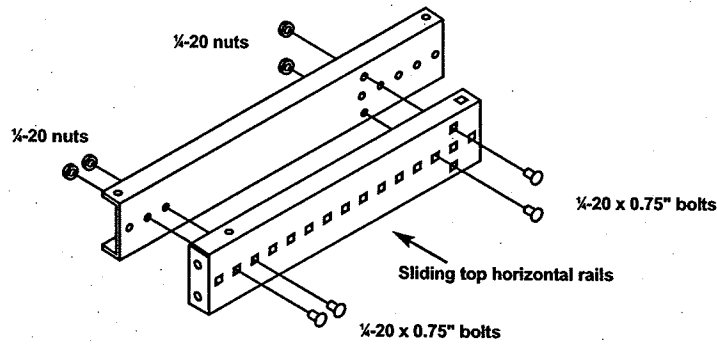

Figure 3. Horizontal rails adjusted to 17.75" (45.1 cm) deep.
- The rack's depth can be adjusted in 1" (2.5-cm) increments. Connect the first set of sliding top horizontal rails together using (4) 1/4-20 x 0.75" bolts and (4) 1/4-20 nuts. Using (4) more 1/4-20 x 0.75" bolts and 1/4-20 nuts, connect the second set of sliding top horizontal rails together.
Next, connect the first set of sliding bottom horizontal rails together using (4) 1/4-20 x 0.75" bolts and (4) 1/4-20 nuts. Repeat this for the remaining set of sliding bottom horizontal rails (you'll use (4) 1/4-20 x 0.75" bolts and (4) 1/4-20 nuts). Figures 3 through 7 show five possible depth adjustments for these rails.